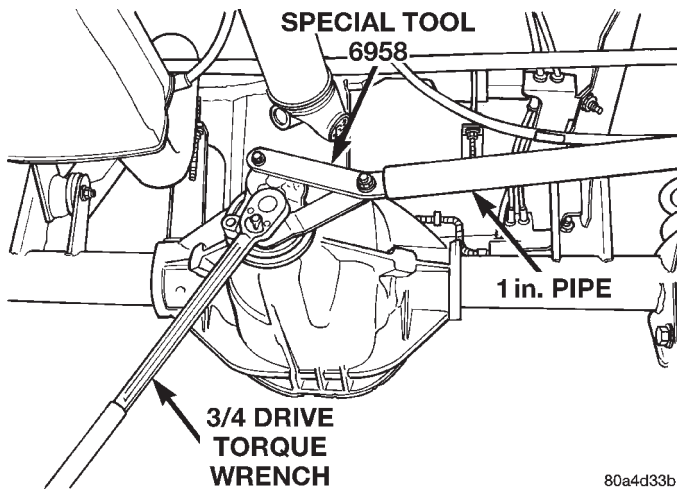

Fig. 13 Tightening Pinion Shaft Nut
(5) If the rotating torque is low, use Holder 6958 to hold the pinion yoke (Fig. 13), and tighten the pinion shaft nut in 6.8 N·m (5 ft. lbs.) increments until proper rotating torque is achieved.